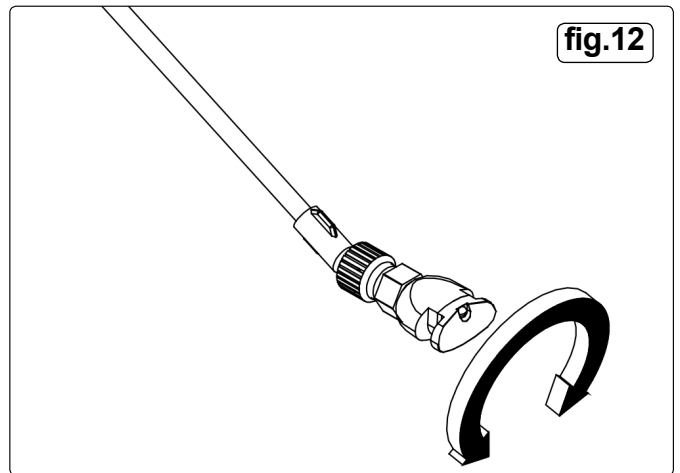

fig.13
- 8.3.2. Turn the broadcast lance valve on (fig.13)